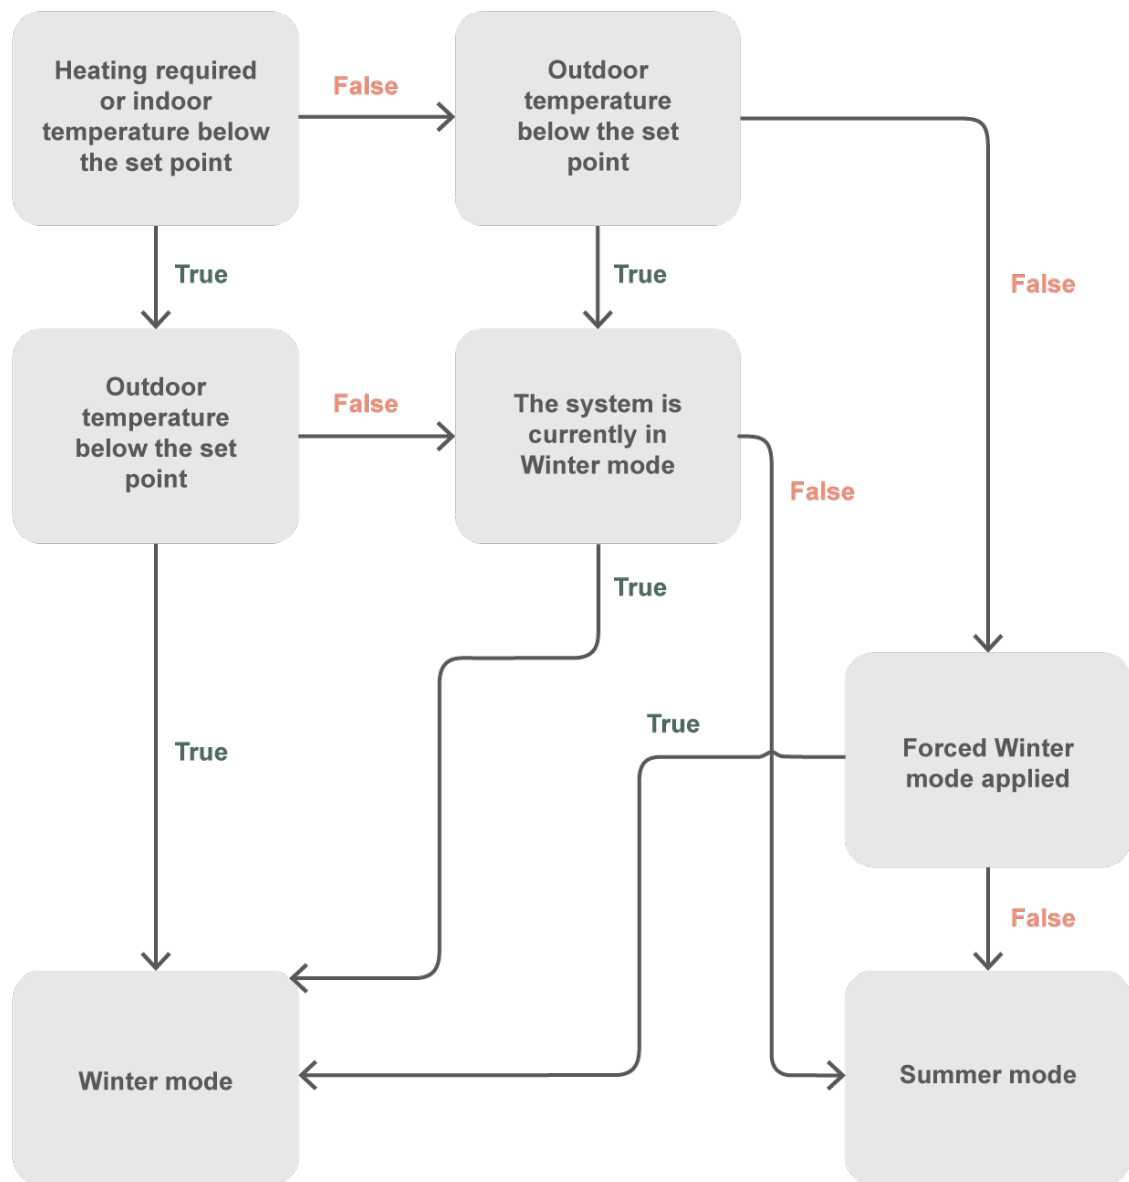

Figure 3 – Season logic of NV Embedded®
- 6.2.5.1. The system will automatically change between summer and winter modes based on the outdoor temperature or a demand for heating/cooling in the ventilated zone. See Figure 3.